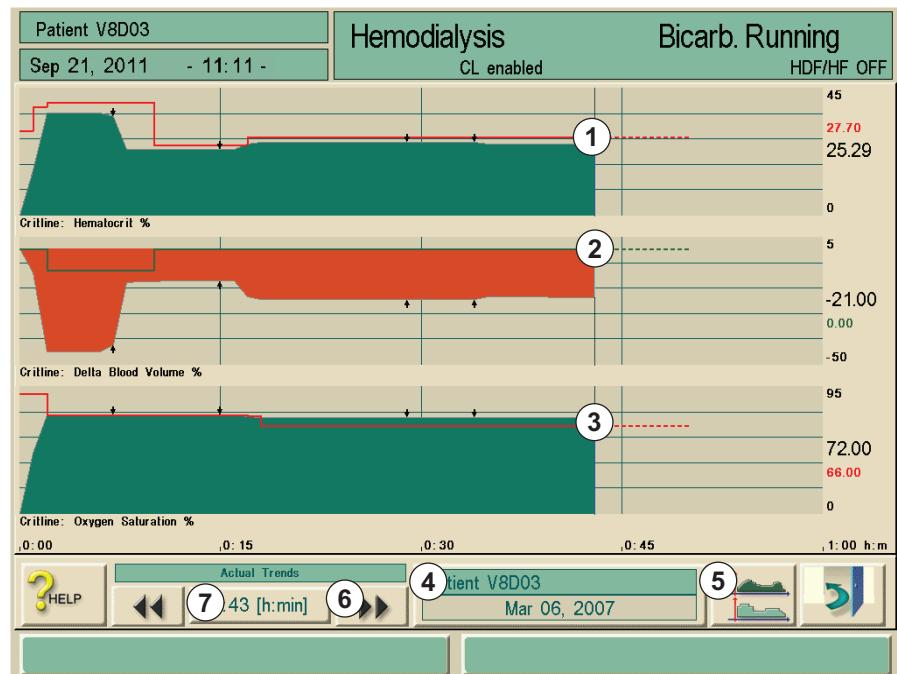

Fig. 11-35 Crit-Line Trends
The hematocrit and Delta BV limits are also displayed. The HCT limit (1) corresponds to the value set in Fig. 11-35 and the BV limit (2) is calculated from the HCT start value and the HCT limit. Line 3 shows the oxygen saturation limit.